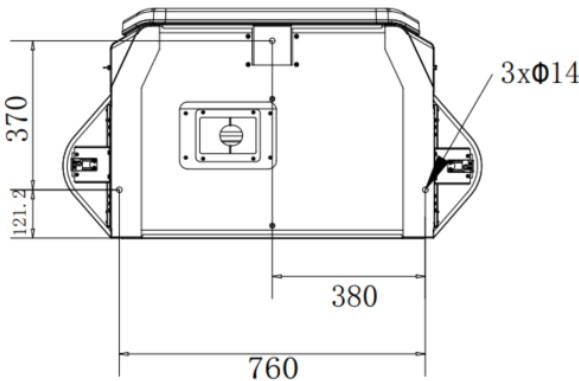

Fig. 5-3 Fixing dimension diagram
- The screw frame must be pre-embedded when making the foundation as shown in Fig. 5-3, three M12×100mm bolts must be pre-embedded, and the height exposed to the ground is 30±3mm.